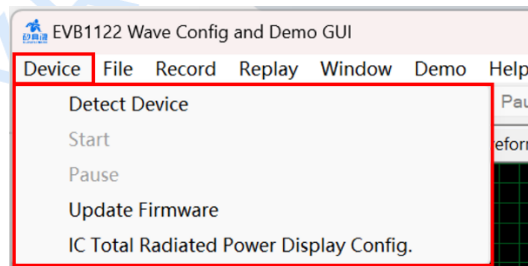

Figure 4-3 The submenus of the Device menu
Step 2: click the **Device** menu (as shown in Figure 4-3), choose the *IC Total Radiated Power Display Config.* submenu to open the configuration window (as shown in Figure 4-4), check the box in front of the text *IC Total Radiated Power Display*, and configure the mmWave sensor IC as instructed below2; subsequently, run the GUI again, and the bottom status bar starts displaying IC temperature and total radiated power simultaneously (as shown in Figure 4-5);